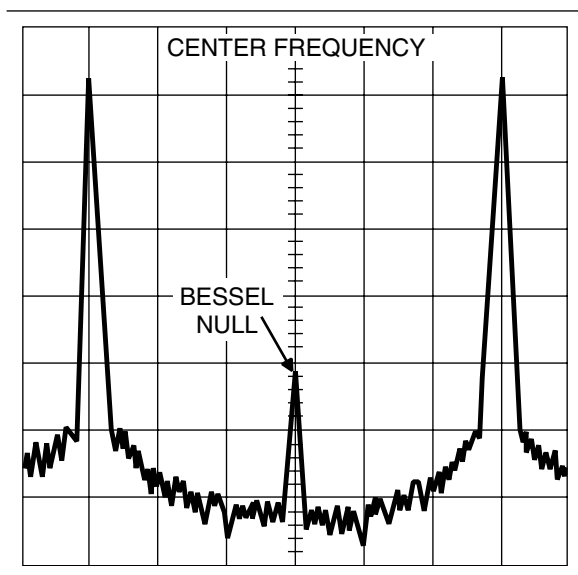

Figure 4-14. Typical Spectrum Analyzer Display of Bessel Null on FM Waveform
- e. While observing the first Bessel null (Figure 4-14) on the Spectrum Analyzer display, adjust the value of the DAC's setting to reduce the carrier level as low as possible.